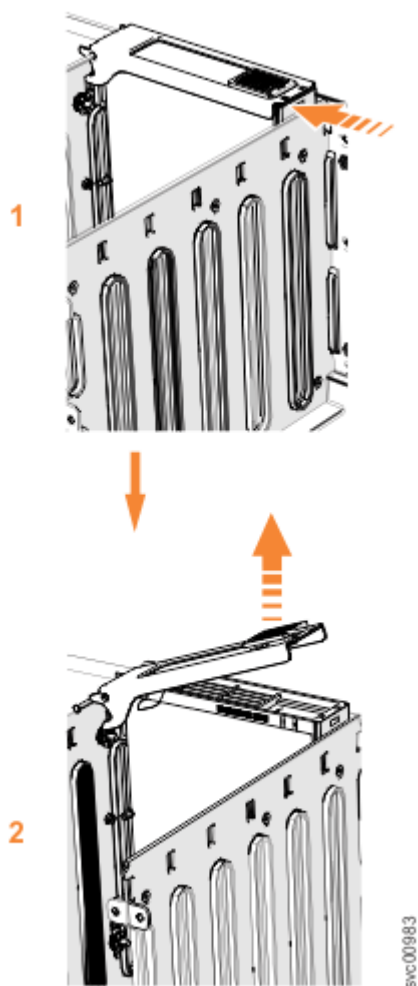

Figure 129. Remove the drive assembly
5. Slide the release latch forward (1), as shown in Figure 129 on page 180.
6. Lift the handle (2) to unlock the drive carrier from the partition, as shown in Figure 129 on page 180. Ensure the toe on the bottom of the latch is fully disengaged.